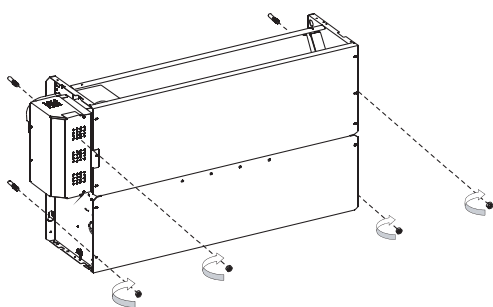

Fig.4-19
2) Secure the unit by driving the four fixing screws into suitable masonry plugs. (Refer to Fig.4-19)